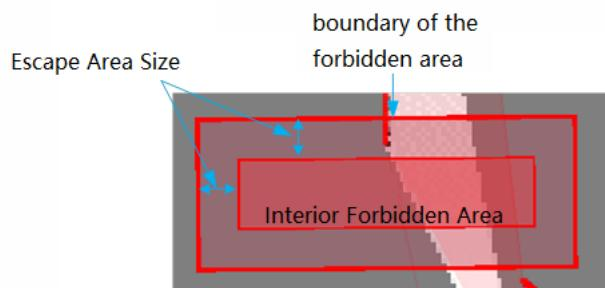

Figure 2.12.3 Escape Region Size
**Escape Region Size:** The distance between the interior forbidden area and the boundary of the forbidden area, as shown in Figure 2.12.3.